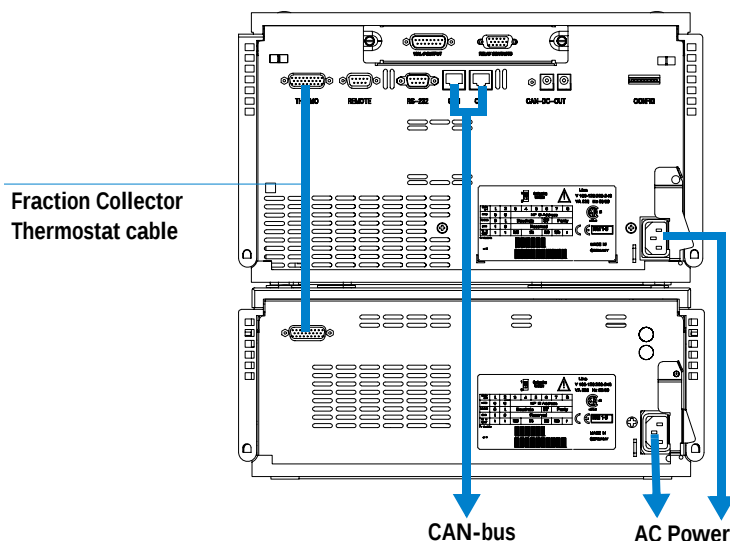

Figure 6 Connections at the Rear of the Thermostatted Fraction Collector
- 14 Connect the cable between the micro collector/spotter and the thermostat, see Figure 6 on page 26.